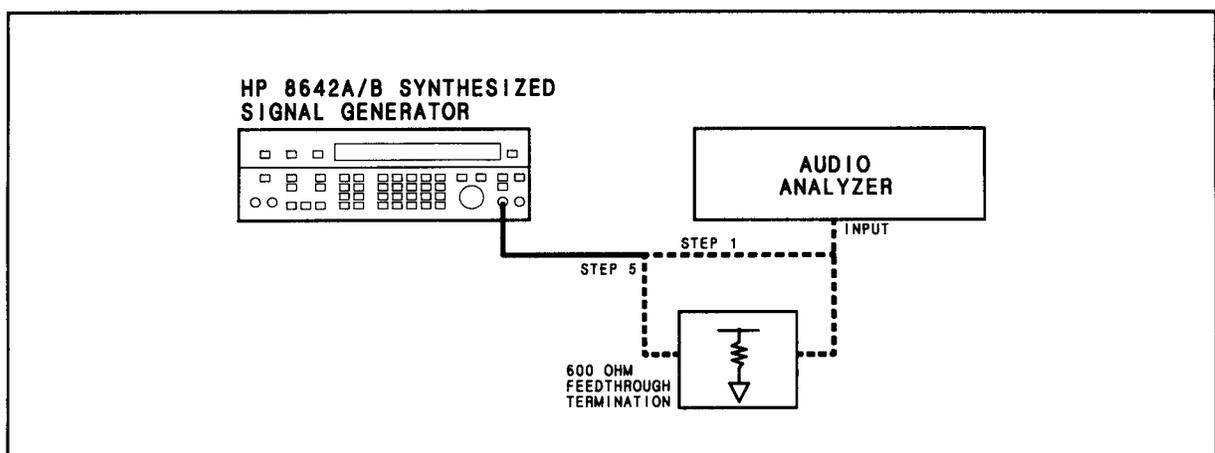

Figure 4-7. Internal Modulation Oscillator Test Setup
1. Connect the instruments as shown in Figure 4-7 (Setup A).
3. Terminate the HP 8642 MOD OUTPUT with the 600 ohm, Figure 4-7, feedthrough and re-connect the cable (Figure 4-7 Setup B).